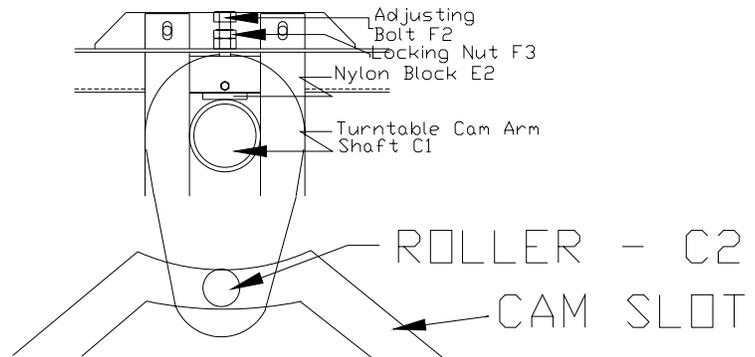

Figure 8
1. The Turntable Cam Arm Roller, {C2} needs to be kept snug against the rear edge of the of the Cam Slot (**Figure 8**).